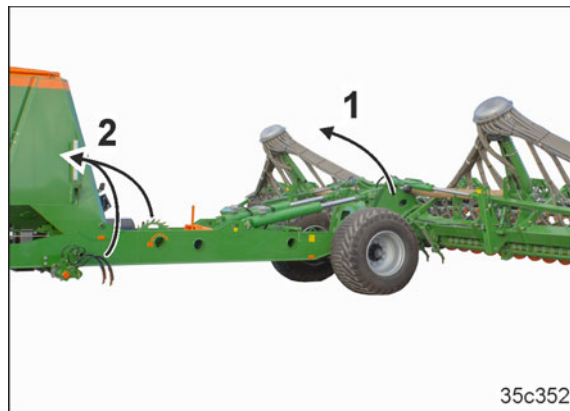

Fig. 263
- o the rear frame (Fig. 263/1)
- o the tractor wheel mark eradicator (optional, Fig. 263/2)